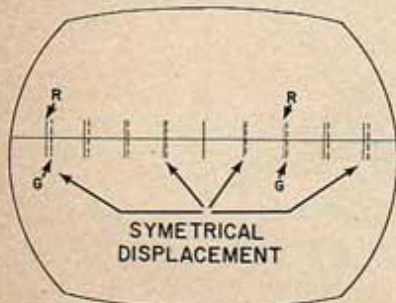

Fig. 2E. Symmetrical displacement of vertical lines on horizontal axis
- b.*—Adjust red phase, T-3 for symmetrical displacement of the red vertical lines and in the same direction from the green vertical lines along the horizontal center line. See figure 2E.
- b.*—Adjust green phase, T-1, for symmetrical displacement of the green vertical lines and in the same direction from the red vertical lines along the horizontal center line. See figure 2E.